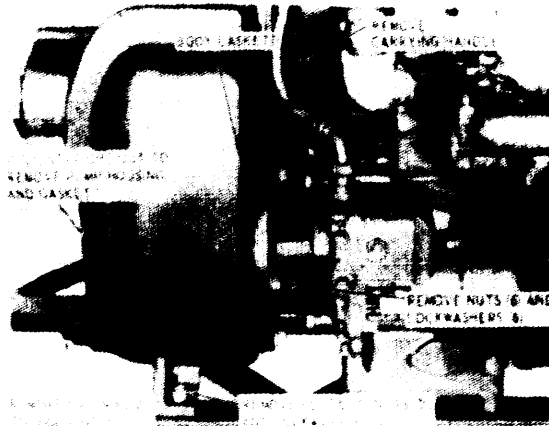
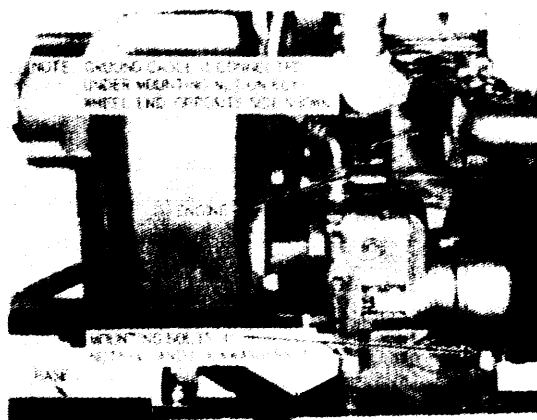
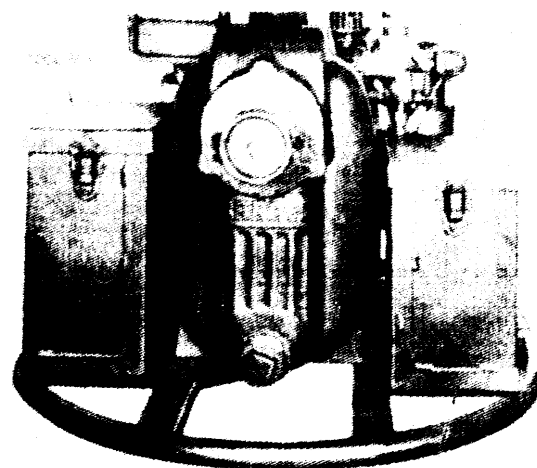

Figure 35. Pump housing, removal and installation.
Figure 37. Engine, removal and installation.
Figure 38. Tool boxes, removal and installation.
a. Housing and Tool Boxes Removal. Refer to figure 35 and remove the pump housing, and to figure 38 and remove the tool boxes.
e. Tool Box and Housing Installation. Refer to figure 38 and install the tool boxes, and to figure 35 and install the pump housing.
a. Removal. Refer to figure 38 and remove the tool boxes, and to figure 37 and remove the engine.
- (1) Clean the engine with a cloth dampened with an approved cleaning solvent; take care to remove all greasy and oily deposits.
- (2) Inspect the engine for missing components and visible damage. Using the starter rope, turn the engine crankshaft over slowly and check for scraping or binding.
- (3) With the ignition switch in the OFF position to prevent engine starting, turn the engine crankshaft over with the starting rope to check for compression.
- (4) If normal compression resistance is not noted, or if engine binds or scrapes when the crankshaft is rotated slowly, report to direct support maintenance.
c. Installation. Refer to figure 37 to install the engine, and to figure 38 to install the tool boxes.
- STEP 2. INSTALL BODY (FIGURE 35) AND CHECK IMPELLER FOR RUBBING AS BODY NUTS ARE TIGHTENED. IF RUBBING OCCURS, REMOVE BODY AND SUBSTITUTE 1/32 INCH BODY GASKET AND REINSTALL BODY. CONTINUE TO ADD BODY GASKET THICKNESSES IN 1/64 INCH INCREMENTS UNTIL RUBBING CEASES AND IMPELLER IS FREE.
a. *Removal.* Refer to figure 38 and remove the tool boxes.
- (1) Clean the tool boxes with a cloth dampened with an approved cleaning solvent. Wipe dry.
- (2) Inspect the tool boxes for cracks, enlarged mounting holes, damaged or sticking hinges, severe dents, and other damage. Lubricate sticking hinges with light penetrating oil. Replace a damaged tool box.
c. *Installation.* Refer to figure 38 and install the tool boxes.